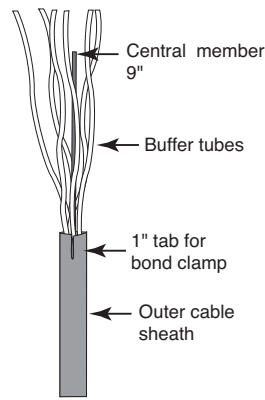

Figure 1
2. Cut central member 9" from the ring cut. (Figure 1)